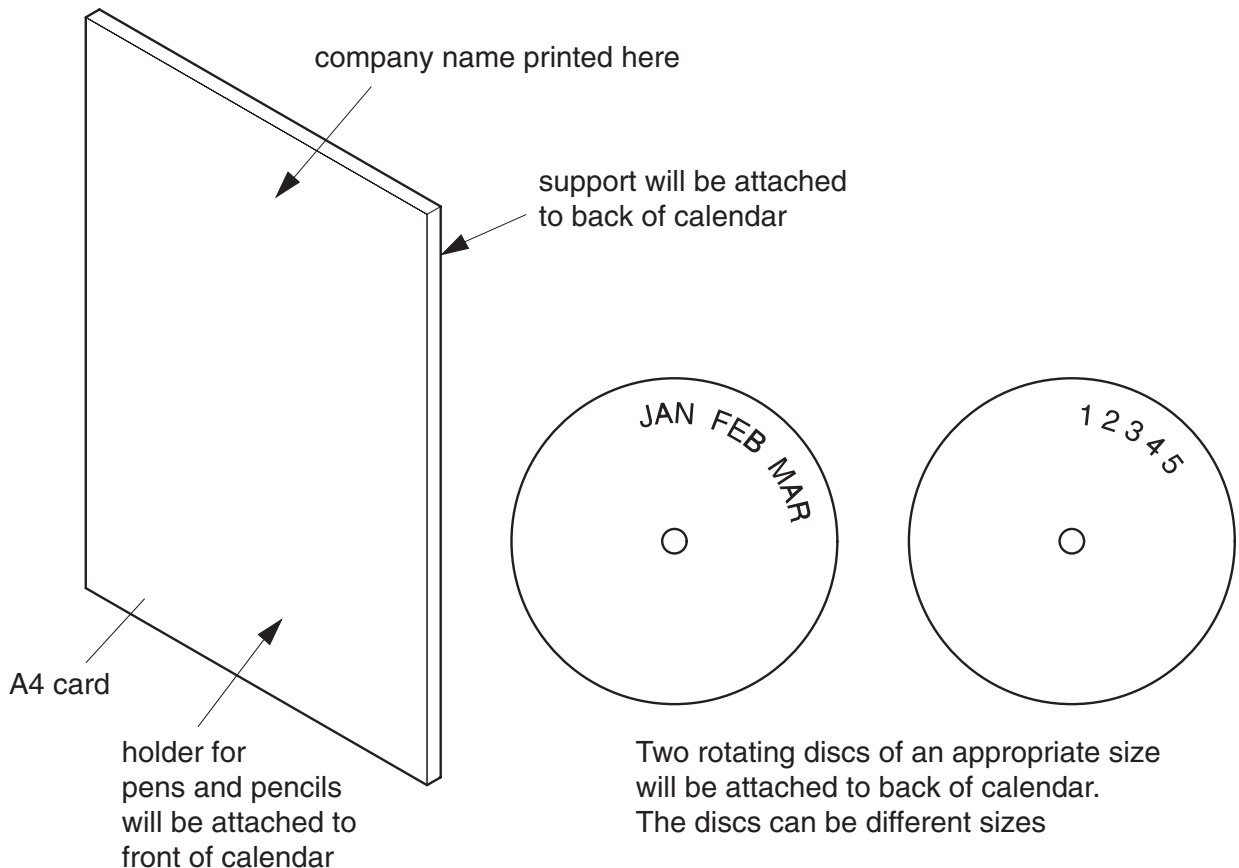

Fig. 8
- 8 Fig. 8 shows an incomplete design for a promotional desk top calendar which a company called 'Group C Design' will post to its clients in a flat-pack form. Most of the calendar is made from card.